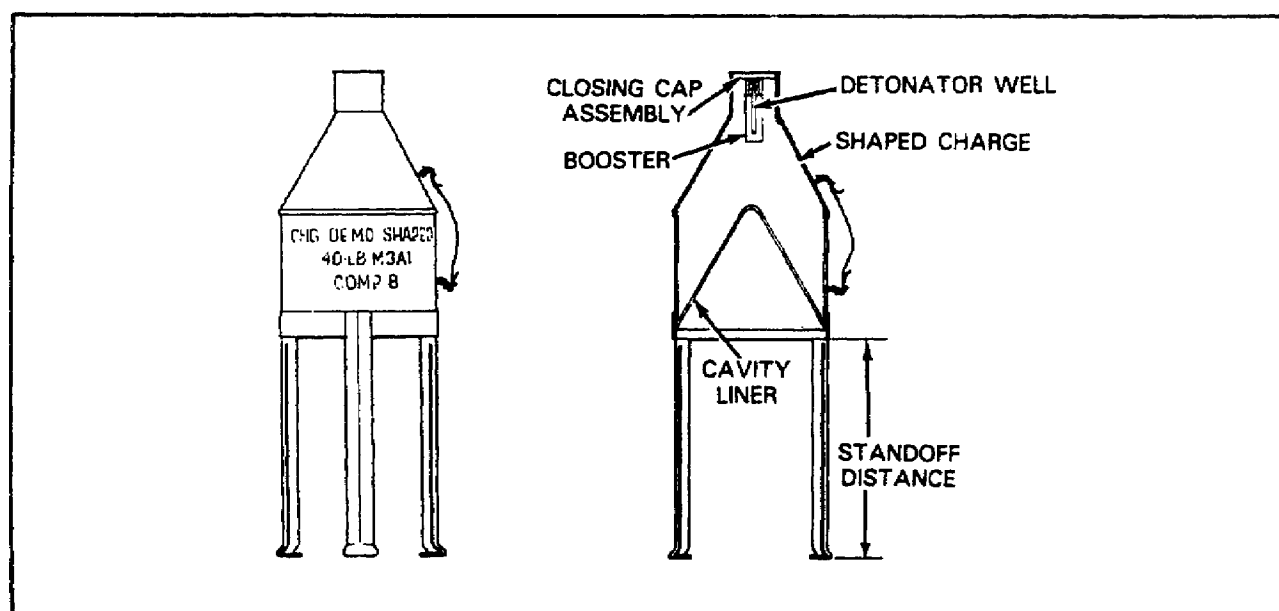

Figure 87. Charge, Demolition, Shaped, M3, 40-Pound.
**Shaped Demolition Charges.** Shaped charges are used to penetrate or bore holes in earth, metal, masonry, concrete, or pavement. Note the cone-shaped cavity in the base of the charge in Figure 87. When the explosive is detonated, the force is focused into a narrow jet directly in line with the cone. Maximum penetrate is obtained when the charge is exploded at a specific distance from the target, called "standoff distance" or "standoff."
**Charge, Demolition, Shaped, M3, 40-Pound.** This shaped demolition charge (Figure 87) is approximately 30 inches high (including the metal standoff tripod) and 10 inches in diameter. It is color coded olive drab with yellow markings. It is packed one charge and one metal standoff frame to a wooden box.